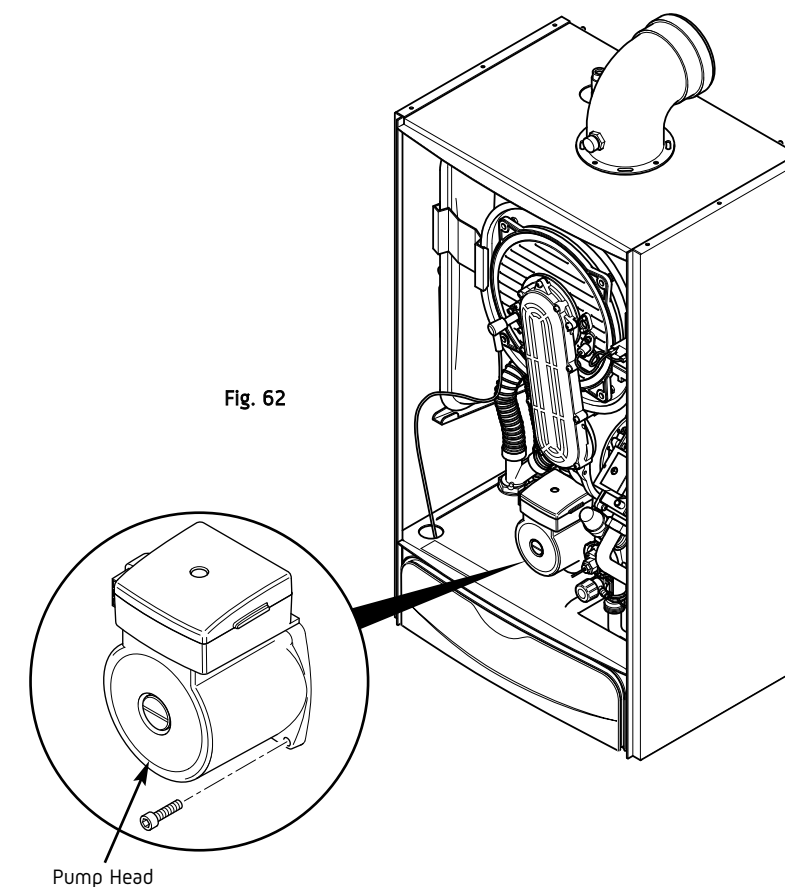

Fig. 62
2. Remove the four socket head screws securing the pump head to the body and draw the head away (Fig. 62).
3. A replacement Grundfos 15-60 head can now be fitted (Fig. 62)(Part No: 500672).